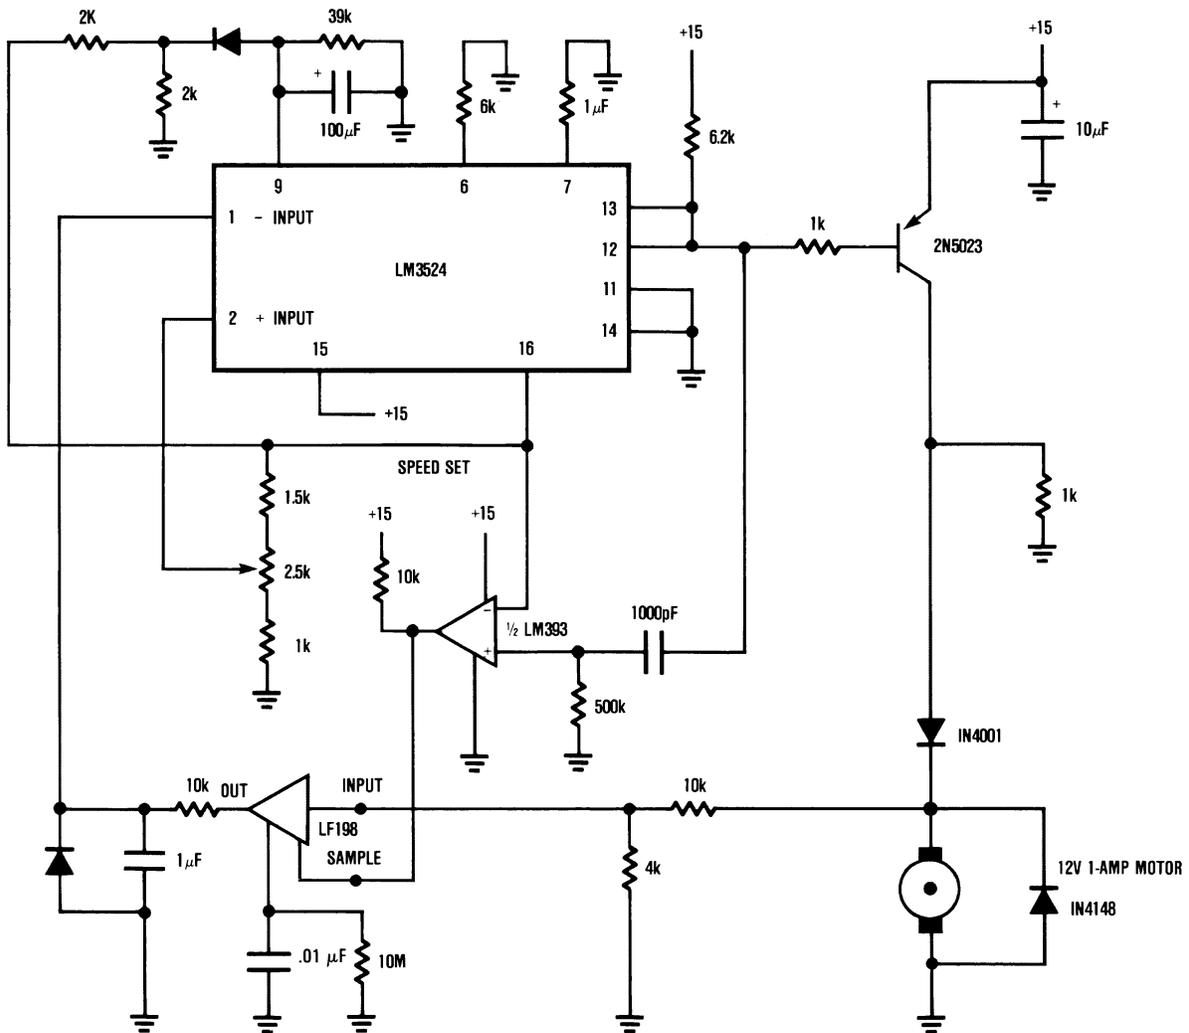

Figure 7. "SENSORLESS" Motor Speed Control
Figure 7 shows the LM3524 in an arrangement that controls the speed of a motor without requiring the usual tachometer or other speed pick-off. This circuit uses the back EMF of the motor to bias a feedback loop, which controls motor speed. When power is applied, the positive input of the LM3524 is at a higher potential than the negative input. Under these conditions, the output of the LM3524 is biased full on (90% duty cycle). The output transistors, paralleled in the common emitter configuration, drive the 2N5023 and the motor turns. (LM3524 output is waveform A, Figure 8; waveform B is the 2N5023 collector.) The LM3524 output pulse is also used to drive a 1000 pF-500 kΩ differentiator network whose output is compared to the LM3524's internal 5 V reference. The result is a delayed pulse (Figure 8, waveform D), which is used to trigger an LF398 sample-hold IC. As the waveforms show, the sample-hold is gated high (ON) just as the 2N5023 collector stops supplying current to the motor. At this instant, the motor coils produce a flyback pulse, which is damped by the shunt diode. (Motor waveform is Figure 8, trace C). After the flyback pulse decays, the back EMF of the motor remains. This voltage is “remembered” by the sample-hold IC when the sample trigger pulse ceases and is used to complete the speed control loop back at the LM3524 input. The 10k-4k divider at the motor output insures the LF398's output will always be within the common range of the LM3524's input. The 10k-1 μF combination provides filtering during the time the LF398 is sampling. The diode associated with this time constant prevents any possible LF398 negative output from damaging the LM3524. The 10 MΩ resistor paralleling the 0.01 μF sampling capacitor prevents the servo from “hanging up” if this capacitor somehow manages to charge above the motor's back EMF value. The 39k-100 μF pair sets the loop frequency response. The maximum pulse-width-modulator duty cycle is clamped by the 2k-2k divider and diode at 80%, thus avoiding overshoot and aiding transient response at turn-on and during large positive step changes. The 60k-0.1 μF values at pins 6 and 7 set the pulse modulation frequency at 300 Hz.